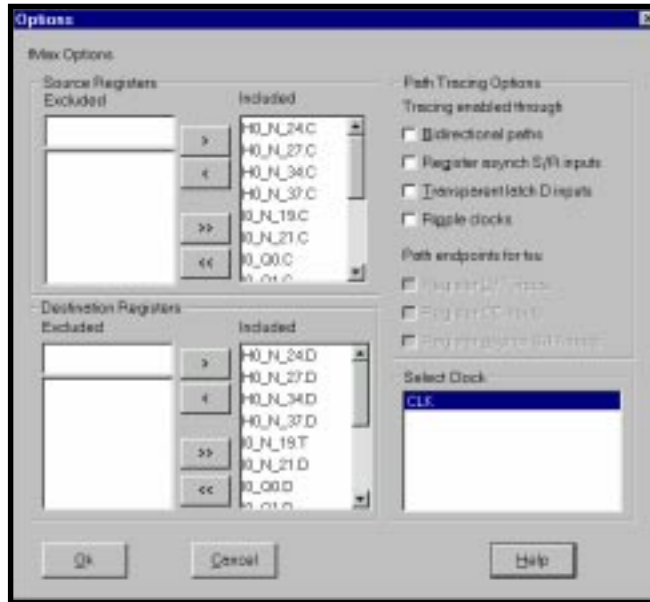

Figure 6-16. Options Dialog Box
2. Click **Options** to open the Options dialog box (Figure 6-16).